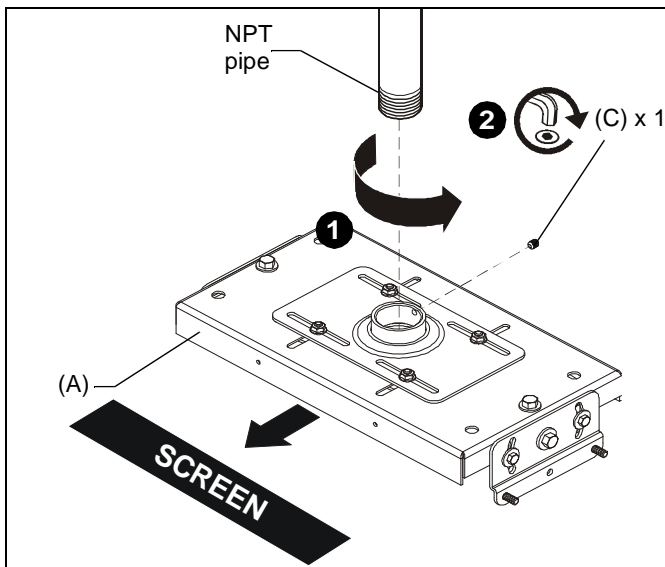

Figure 1
1. Thread the VCM mount (A) onto the existing 1-1/2" NPT pipe until tight with a minimum of four threads engaged. ((Siehe Abb. 1))
NOTE: Ensure that long edge of VCM mount is located parallel to the screen. ((Siehe Abb. 1))
2. Tighten the 5/16-18 x 3/8" set screw (C) into the VCM mount threaded collar to prevent movement of the VCM. ((Siehe Abb. 1))